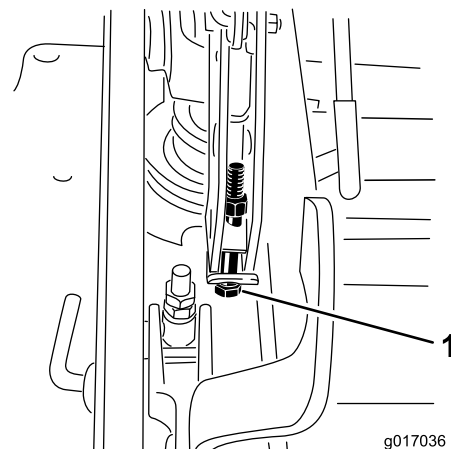

Figure 97
13. If the deck is too low, tighten the single point adjustment bolt by rotating it clockwise. If the deck is too high, loosen the single point adjustment bolt by rotating it counterclockwise (Figure 97).